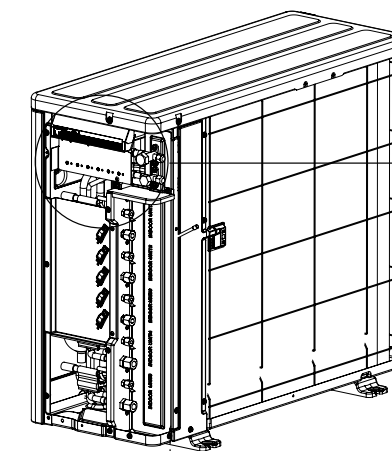

Fig. 3-3-1
- ※ To avoid misconnection, please refer attached terminal label as shown in Fig. 3-3-1.